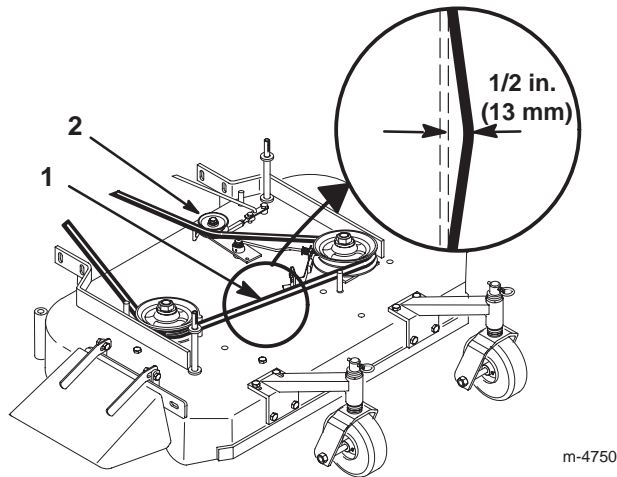

Figure 58
4. Remove the idler pulley and the worn belt (Fig. 58).
Note: The proper mower belt tension is 10–15 lbf. (44–67 N) with the belt deflected 1/2 in. (13 mm) halfway between the pulleys (Fig. 58).